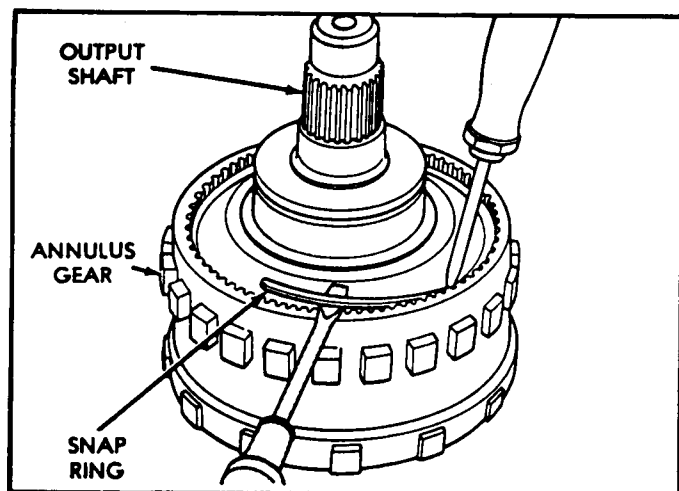

Figure 23
30. Remove the snap ring that secures the annulus ring gear on the output shaft, as shown in Figure 23. Use two screwdrivers to unseat and work the snap ring out of its groove, as shown in Figure 23.